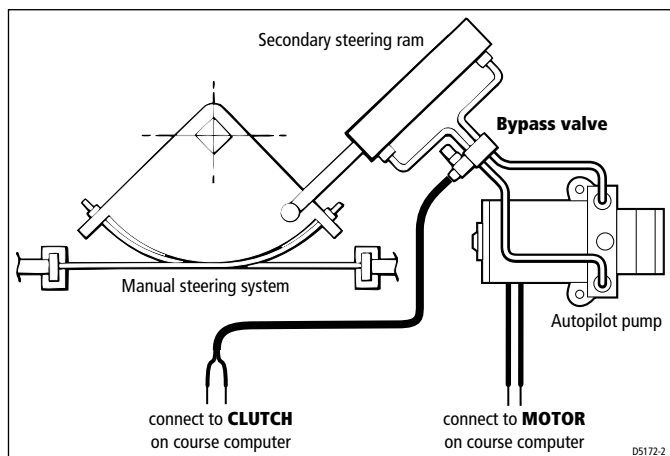

Figure 9: Connecting to a secondary steering ram
- Install the solenoid-operated bypass valve (part number: M81167) across these pipes (as shown in *Figure 9*).